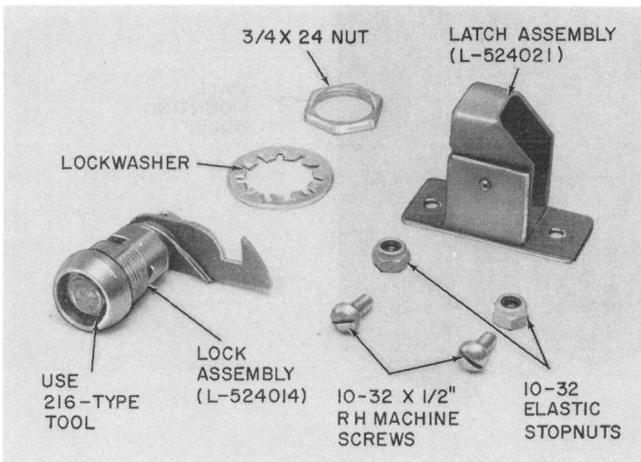

Fig. 10—D-180991 Lock Kit
2.16 The lift-out cover is provided with a knockout for installing a lock kit (ordered separately) when security is desired (see Fig. 10 and 11 and Table E). Install lock kits as outlined in paragraph 4.03.